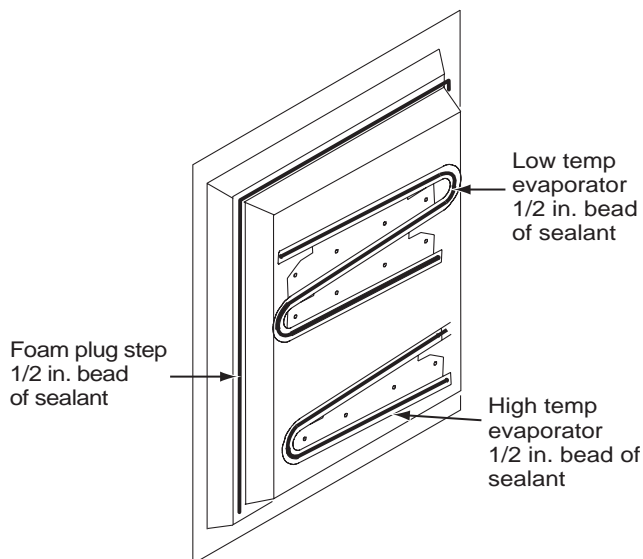

Figure 30. Application of Sealant.
3. Apply a 1/2 inch bead of sealant to the cooling unit low and the high temperature evaporators, and to the foam plug step. See Figure 30.